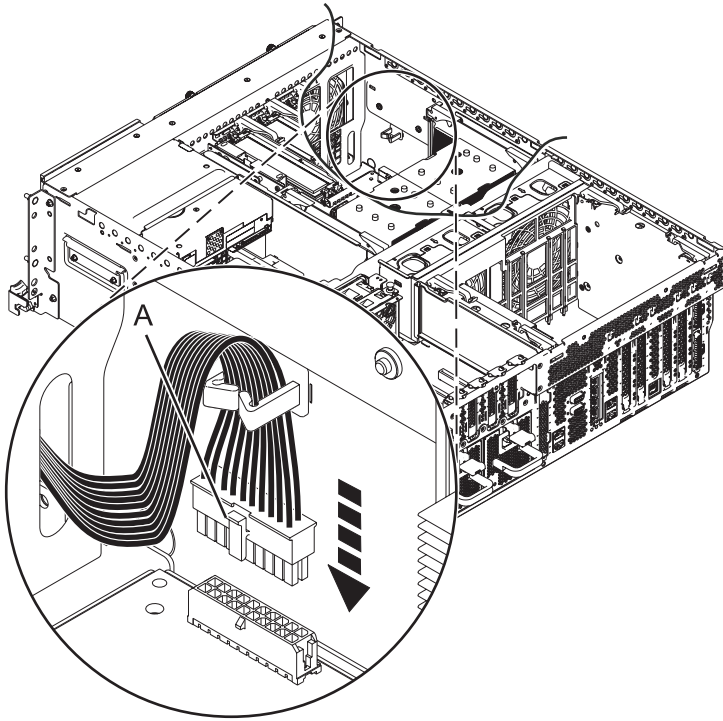

Figure 44. Connecting the front fan cable
6. Connect the front fan cable. See Figure 44 on page 68.